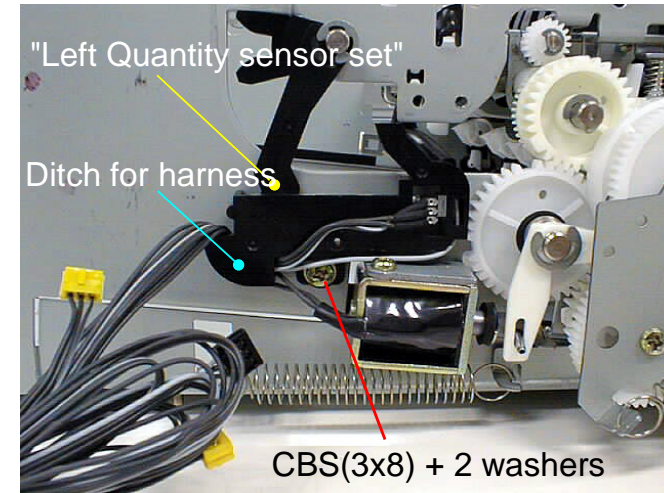

Figure 4-58. Releasing harness for Paper Pick Up (Upper surface)Sensor
2. Remove "Left Quantity sensor set", and release the fixing part of a harness 3-pin for upper surface sensor on the ASF from the ditch of "Left Quantity sensor set". (Refer to Figure4-58)